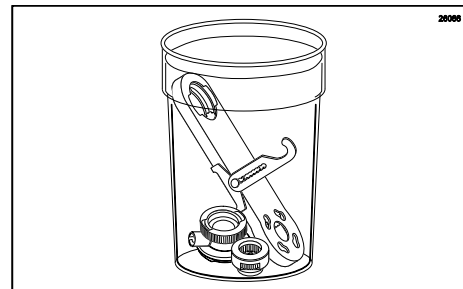

Figure 125
2. Place the Gear Box, Suspension Bracket, Gear Cartridge, and Injector Head in approved sanitizer solution and soak for 1 minute. (See Figure 125.)